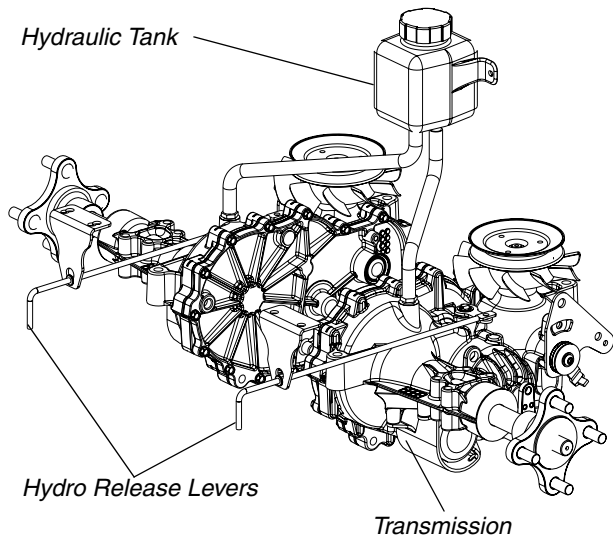

Figure. 8
- h. Remove the hydraulic filter from each transaxle to allow hydraulic oil to drain. (See Figure 8)
Note: If you wish to move the mower by pushing, you must release the dynamic braking. Locate the levers at the rear of the mower. Pull both levers out and lock in position. After pushing the mower to the desired location, return both levers to the operating position (See page 18 Figure 8).